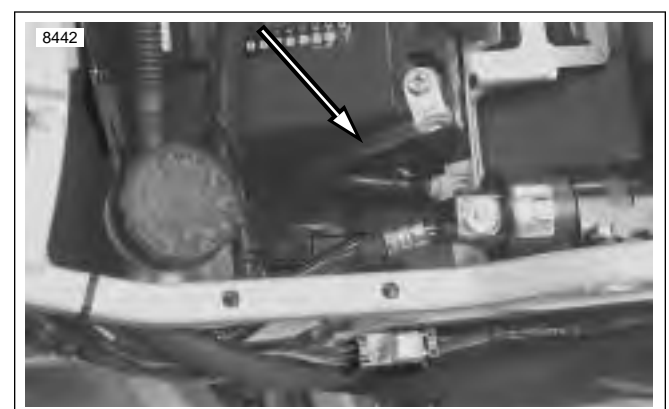

Figure 7-39. Negative Battery Cable
2. See Figure 7-39. Remove fastener to detach negative battery cable from frame.
- b. See Figure 7-39. Attach negative cable to frame. Tighten to 48-72 **in-lbs** (5.4-8.1 Nm).